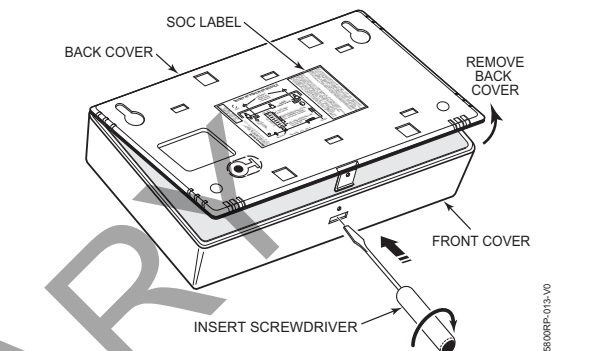

Figure 2: Removing the Cover
Removing the Cover: Remove the 5800RP-ADT's cover by inserting and twisting a screwdriver blade. See Figure 2.
- Affix the Summary of Connections label to the outside back cover. See Figure 2.
The 5800RP-ADT is powered from an AC external power source connected to terminals 1 and 2. See Figure 2.